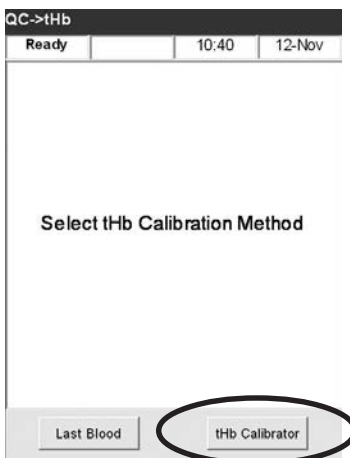

Fig. 6-4 Select tHb Calibrator
- 5. Select **<tHb Calibrator>** (Fig. 6-4).